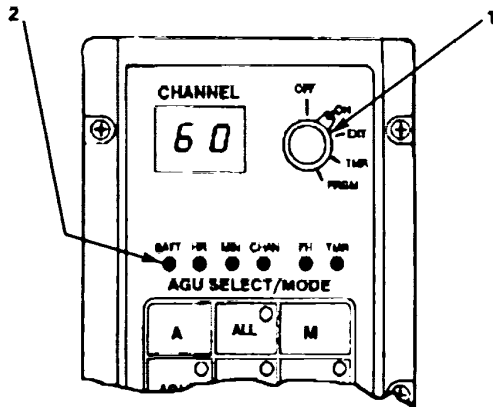

Figure 3-1. T/C Battery Check and Charging
- a. T/C Battery. (Sec Figure 3-1.) Check the T/C battery as follows:
- (1) Set the T/C rotary switch (1) to ON.
- (2) Observe BATT LED (2). If the LED is not illuminated, it is an indication that the battery condition is good. A flashing BATT LED indicates a battery low condition.